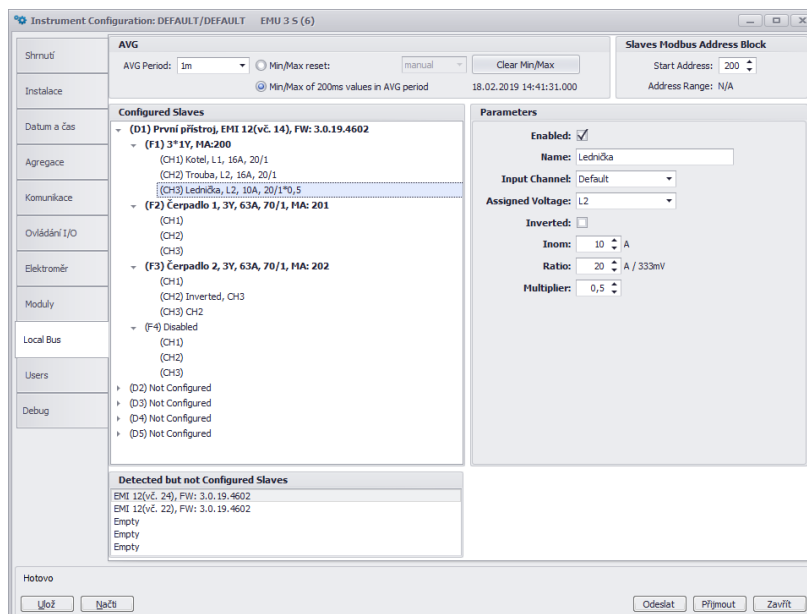

Figure 5: ENVIS.Daq — Local bus tab for EMI 12 modules configuration for branch circuit measurement.
- 2.4.1 Local bus (fig. 5) . . . . . 8
### 2.4.1 Local bus (fig. 5)